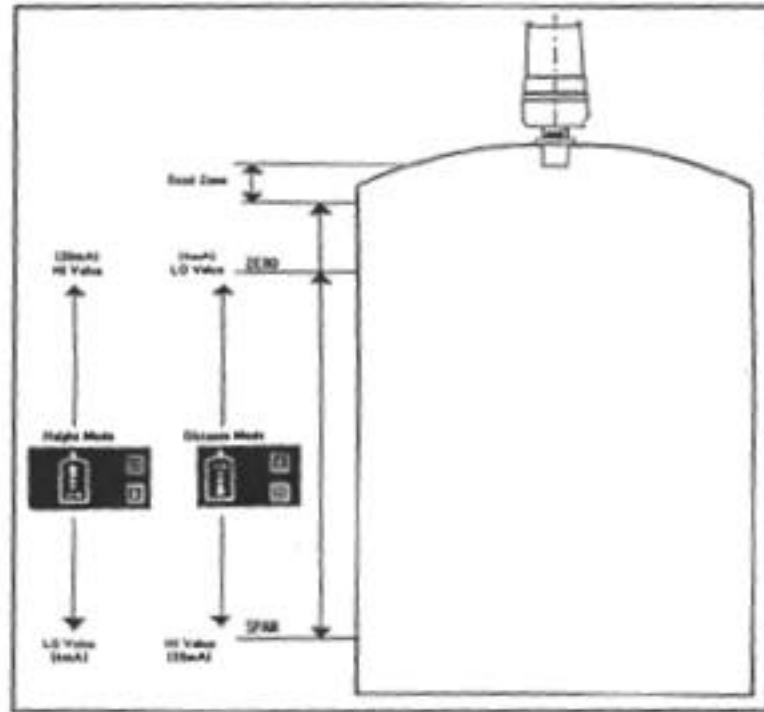

Figure 2. Calibration Diagram
2.4 Calibration Diagram (Fig 2)4